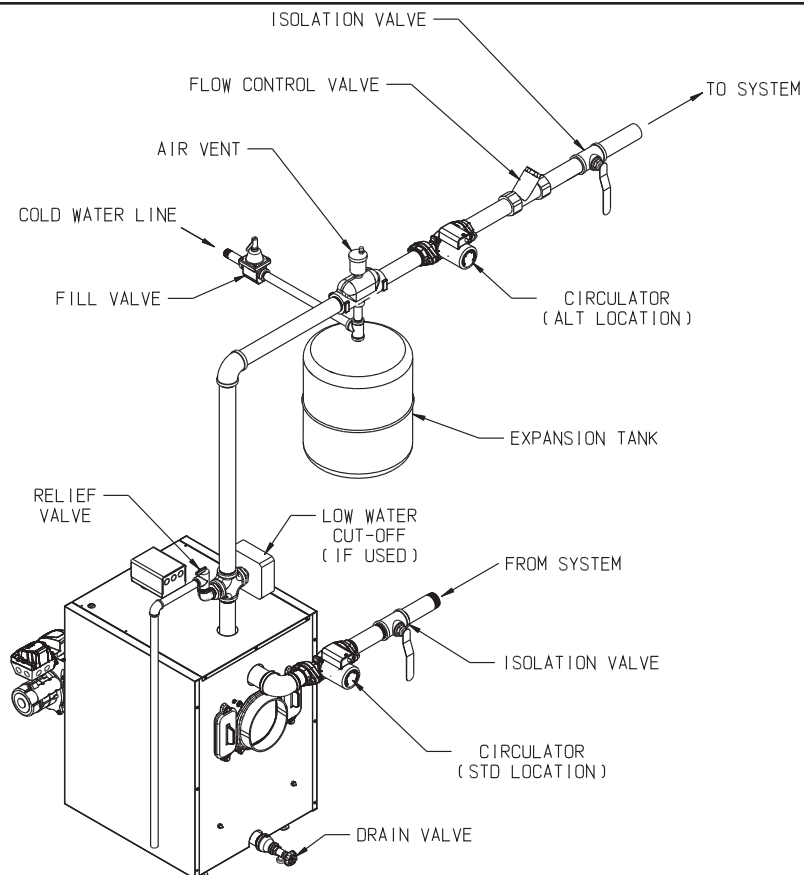

FIGURE 8.2: STANDARD BOILER PIPING
Figure 8.2 shows typical boiler system connections on a single zone system. Additional information on hydronic system design may be found in the *I=B=R* Guide RHH published by the Air-Conditioning, Heating and Refrigeration Institute (AHRI). The components in this system and their purposes are as follows:
- 3) Circulator (Required) - Figure 8.2 shows the ideal location of the circulator which is in the supply piping immediately downstream of the expansion tank. A less ideal, but acceptable, location for most residential circulators is in the return. The circulator/s and connected piping should be sized so that the temperature rise across the boiler is 20F. Burner operation while the flow through the boiler is less than that shown in Table 8.0, column (a) could result in problems regulating the supply temperature. If the system is zoned, the flow rate through the boiler should be greater than that shown in Table 8.0 when only the zone having the lowest flow rate is on. If this requirement cannot otherwise be met, use a bypass, or primary-secondary piping. Boiler head loss data at the minimum flow and the flow corresponding to a 20F rise are shown in Table 8.0.